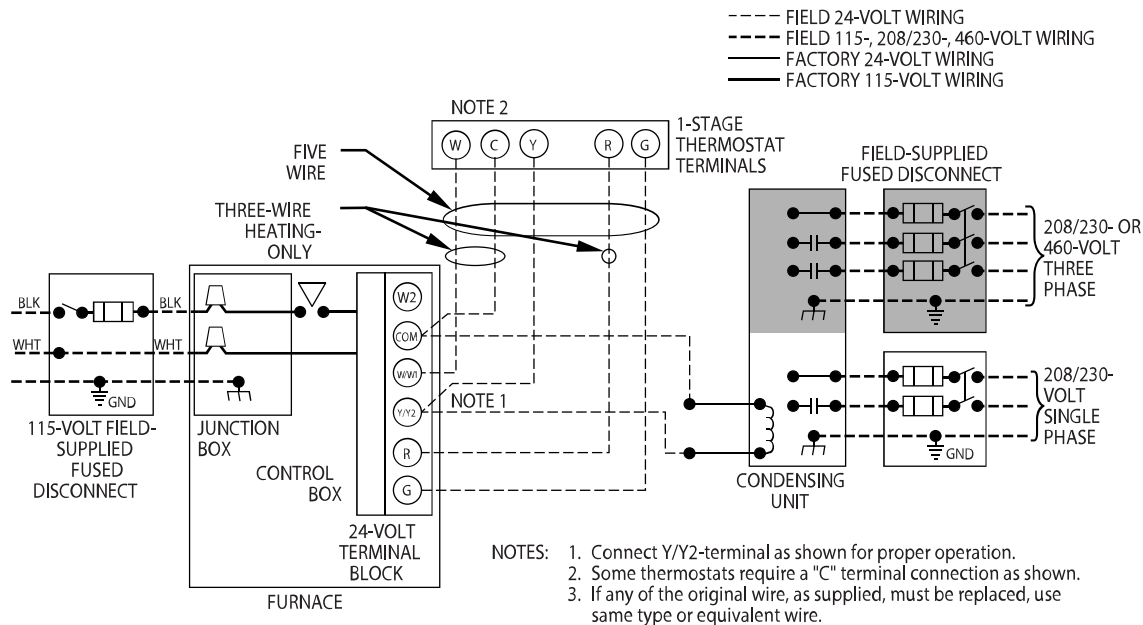

Fig. 23 – Heating and Cooling Application Field Wiring Diagram
See Fig. 23 for field wiring diagram showing typical field 115V wiring. Check all factory and field electrical connections for tightness.
- Complete electrical box wiring and installation. Connect line voltage leads, see Fig. 23. Use best practices (NEC in U.S. for wire bushings, strain relief, etc.)
- Connect line voltage leads, see Fig. 23.
Make field 24V connections at the 24V terminal strip, see Fig. 23. Connect terminal Y as shown in Fig. 39 for proper cooling operation. Use only AWG No. 18, color-coded, copper thermostat wire.